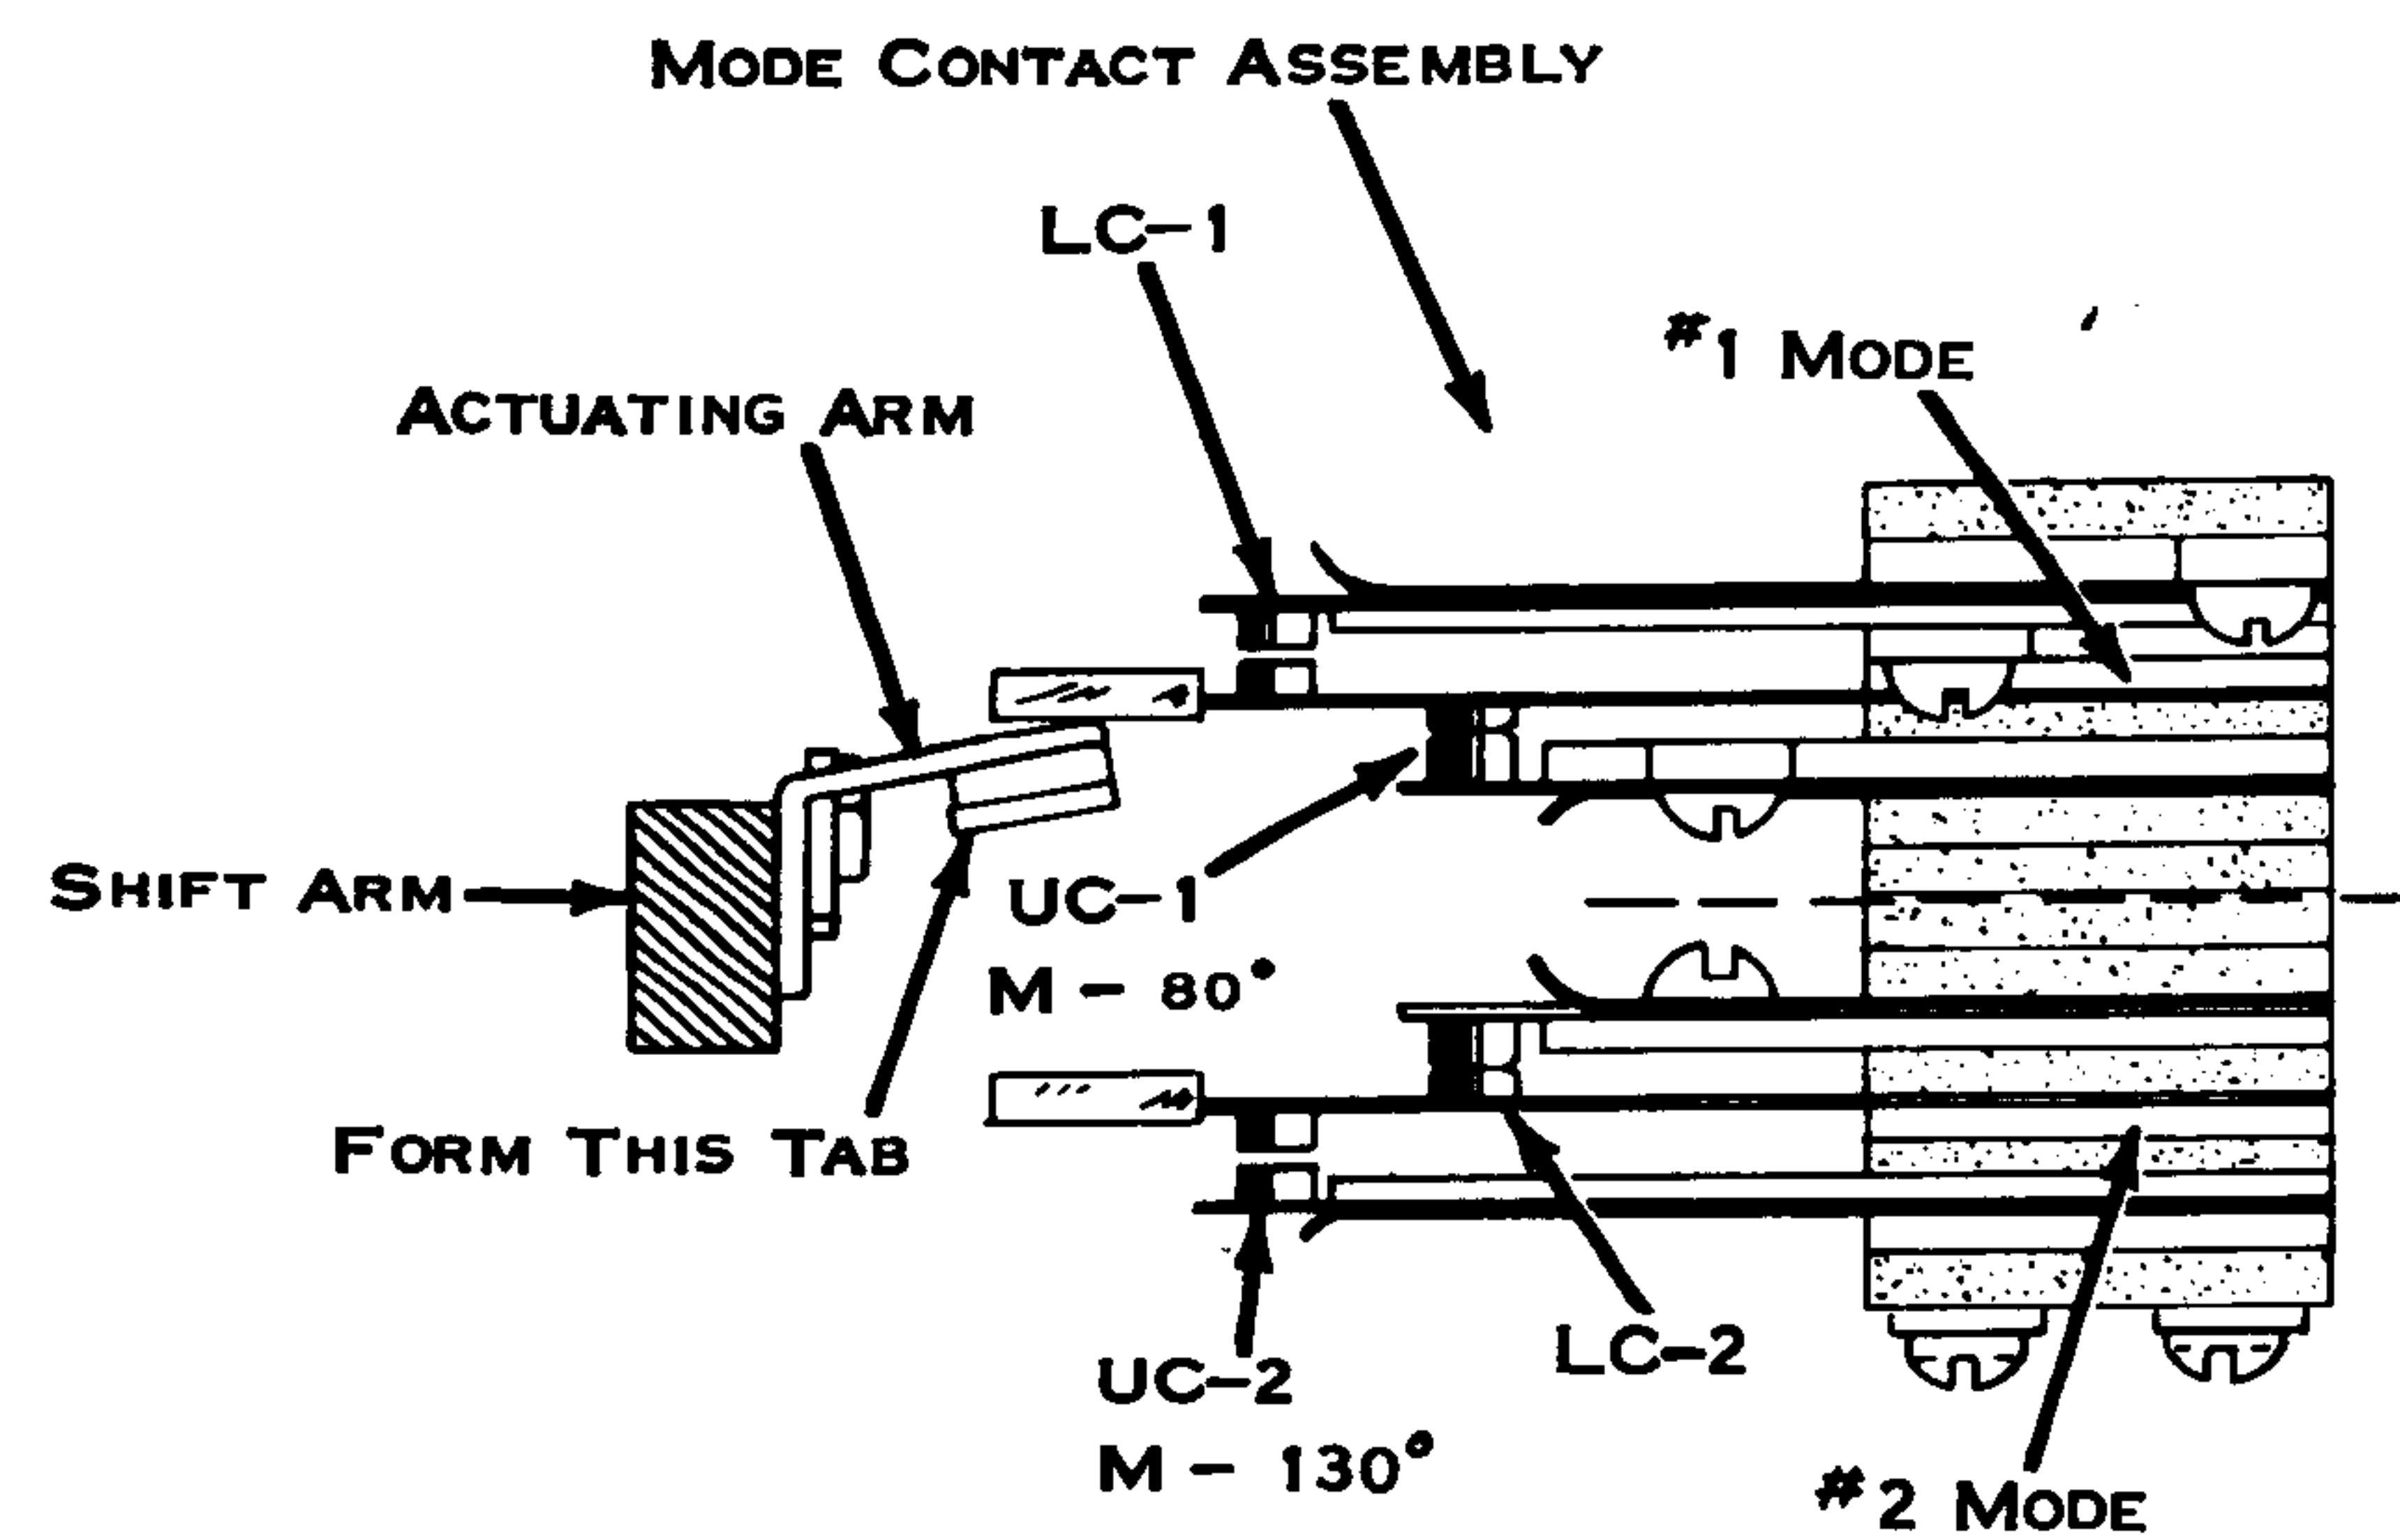

Figure 106. Mode Contact Actuating Arm
- Mode Contact Actuating Arm - With the shift ratchet released, hand cycle from lower to upper case and adjust as follows (Fig. 106).